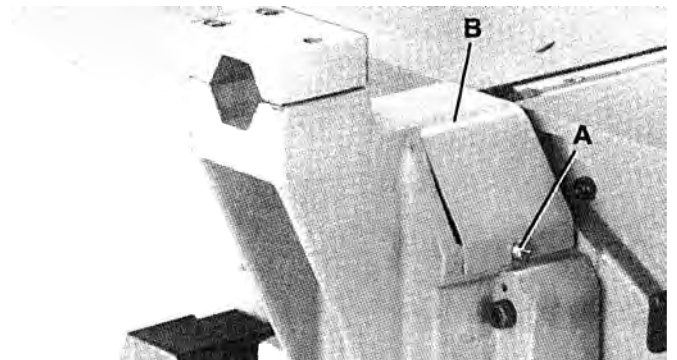

FIGURE 13
1. Loosen two screws, one of which is shown at (A) Fig. 13, and remove cutterhead pulley guard (B).